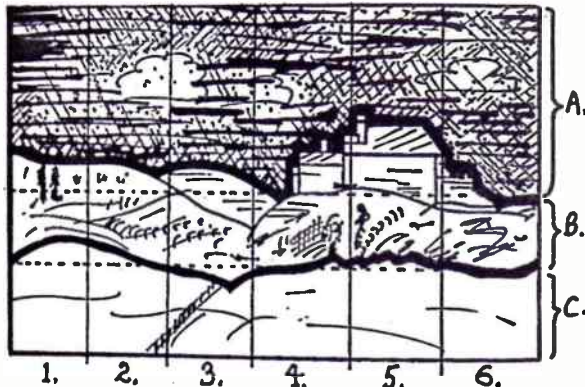
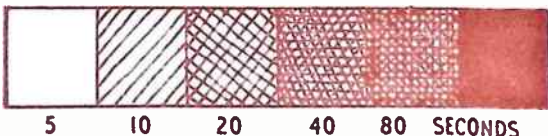

Fig. 1—Exposure tests
Fig. 2—How density increases
To secure good results with this method, it is necessary to remember that most outdoor shots have dense skies, and relatively thin foregrounds. A negative of this type is represented in Fig. 1. (A) is sky, and very dense — this will be almost white on the finished enlargement. (B) is the middle distance, which includes roads, street and country scenes, etc. This is moderately dark, on the negative, and will probably be the most important part of the picture. (C) is the foreground, usually thin, with perhaps only a little detail. Because it is thinnest of all on the negative, it will give the darkest part of the finished enlargement.
Fig. 2 illustrates how density is built up as the exposure time increases. At the left, 5 seconds is much too short, so that the sensitive paper shows no detail. At the right, 160 seconds was much too great, so that the paper becomes completely black, when developed. Somewhere between these extremes will be a satisfactory section, and a whole print can then be made with this exposure.
When a little experience has been gained, paper may be saved by cutting a narrow piece (say 1/4 in. to 1 in. wide) and laying this along a typical portion of the picture area, as shown by the dotted lines opposite section (B) in Fig. 1. This will give a series of test exposures like those in Fig. 2. One sheet of sensitive paper, cut in this way, will allow a large number of tests to be made. This is a worthwhile saving when big enlargements are made.